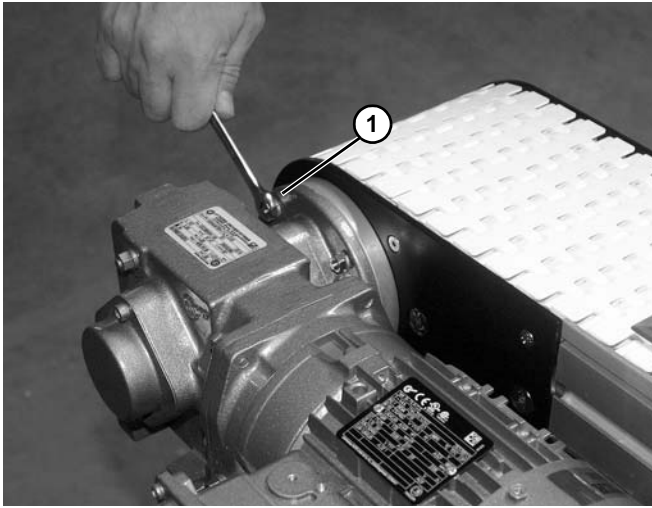

Figure 139
1. Remove four nuts (**Figure 139, item 1**) securing drive motor.